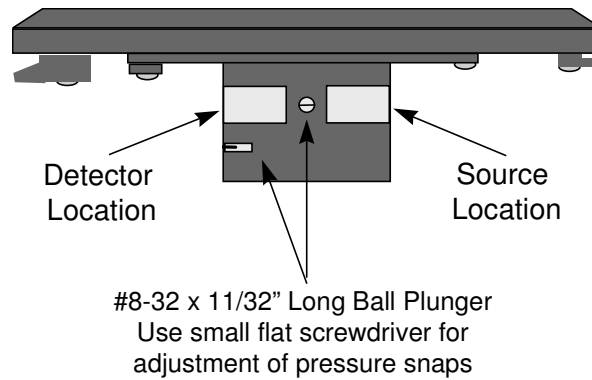

Figure 4: The Filtometer CVH Sample Stage: Front View
- 4.3 With a slotted head screwdriver, turn the two (2) pressure snaps (clockwise tightens; counter clockwise loosens) 1/4 turns. Re-insert cuvette and “feel” for proper tightness (figure 4).